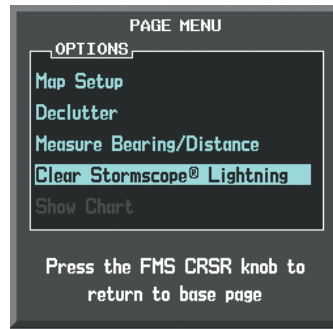

Figure 6-67 Navigation Map Page Options Menu
If heading input is lost, strikes and/or cells must be cleared manually after the execution of each turn (Figure 6-67). This is to ensure that the strike and/or cell positions are depicted accurately in relation to the nose of the aircraft.
- 2) Select 'Clear Stormscope Lightning' (Figure 6-67).